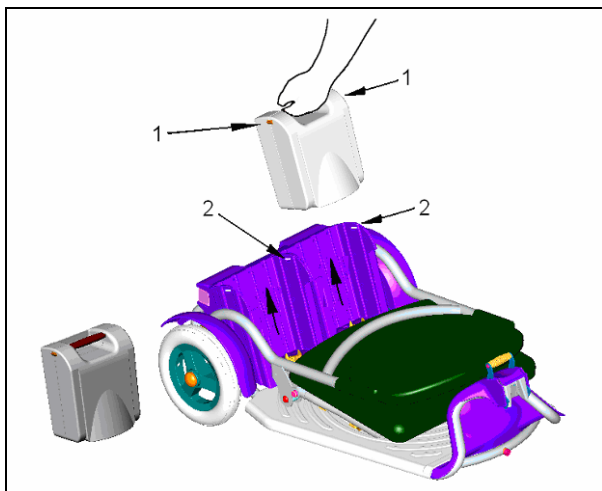

Fig 13
- Remove the batteries by lifting each one out in turn by its handle. The handle automatically releases the retaining locks and the electrics disconnect automatically (fig 13). TAKE CARE, the batteries are fairly heavy